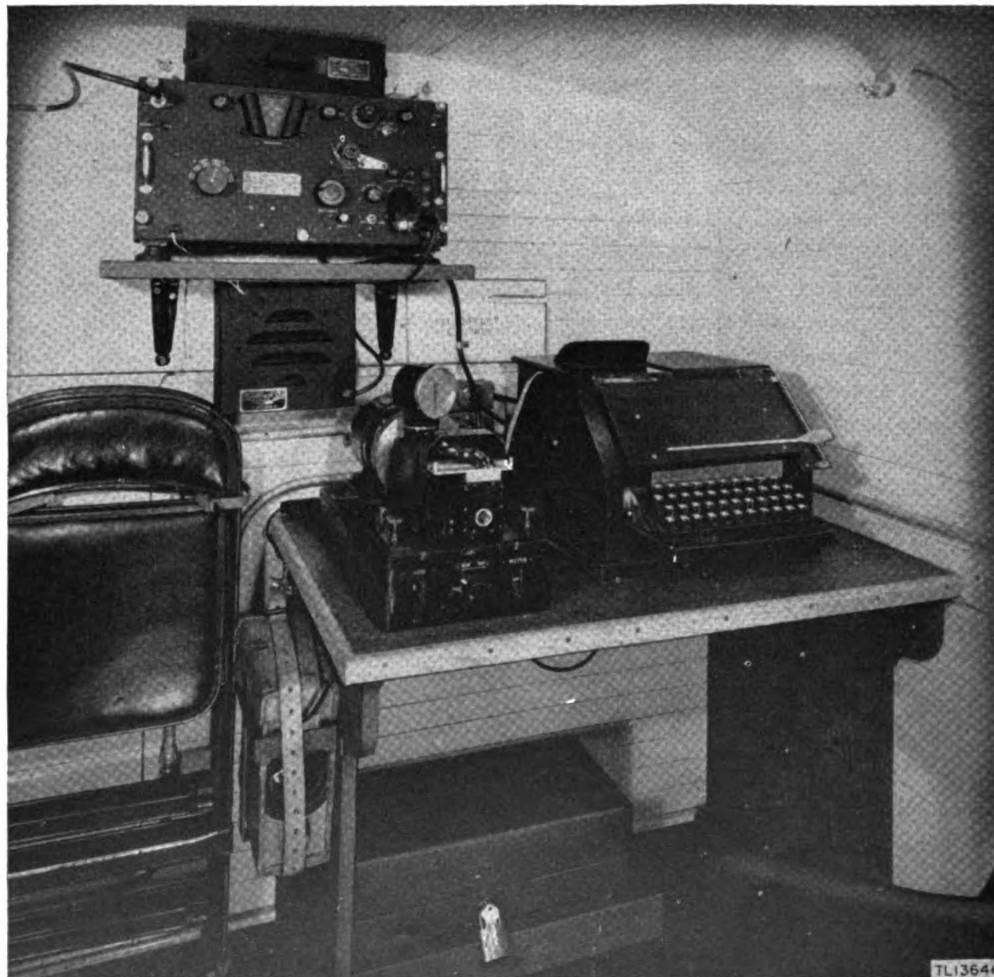

Figure 9. Radio Set AN/MRC-1—transmitting table.
d. TRANSMITTING TABLE. Table MT-214/MRC-1 is permanently installed along the right front of the shelter. It holds the teletype tape perforator and the keying head and keying head drive. (See fig. 9.)